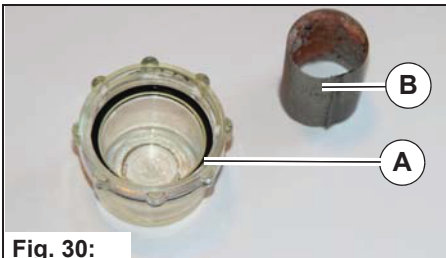

Fig. 30:
Check the filter sieve **Fig. 30-B** of the fresh water filter **Fig. 28-24** weekly and clean or replace it as required.
2. Turn and remove the filter cover **Fig. 30-A**.
3. Remove the filter sieve **Fig. 30-B** from the filter housing and clean it under running water. Replace the filter sieve as required.